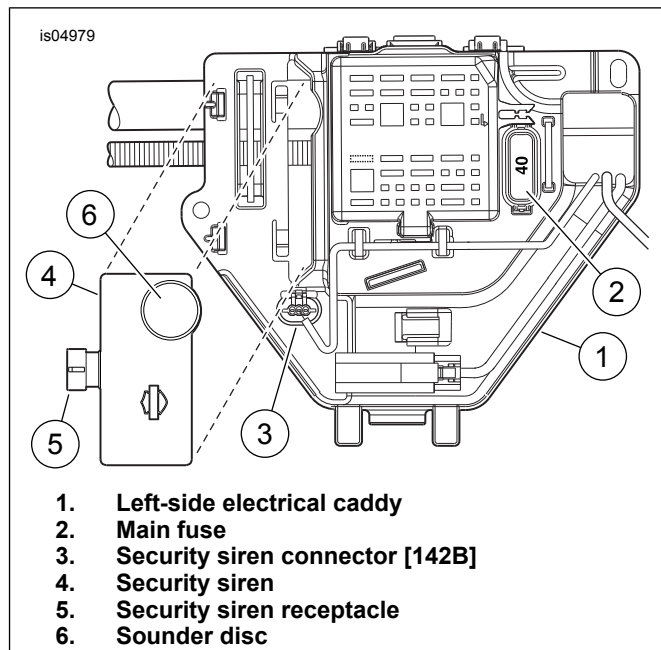

Figure 18. 2008-2013 Touring and Trike
4. See Figure 18. Remove security siren connector [142B] (3) from retainer on electrical caddy. Insert security siren connector [142B] into security siren receptacle (5) until connector latches securely.
5. Slide siren into place on left side of electrical caddy so sounder disc (6) faces out.